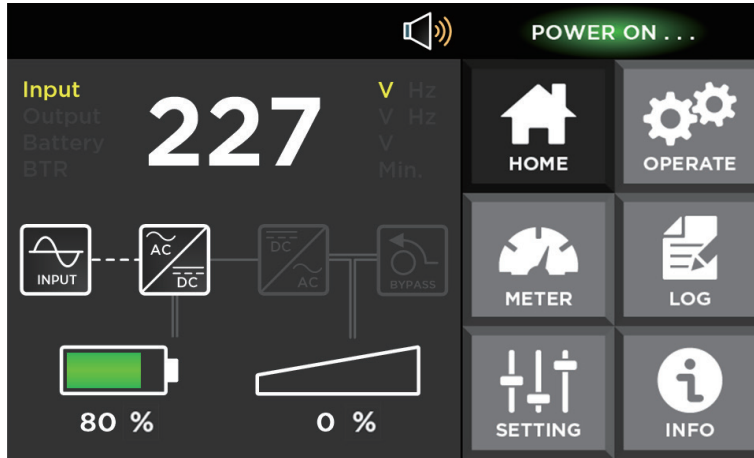

Fig.4-4 Interface of AC soft starting
2. During the first 30S, the rectifier starts to charge the DC bus from AC grid. As shown in Fig.4-4